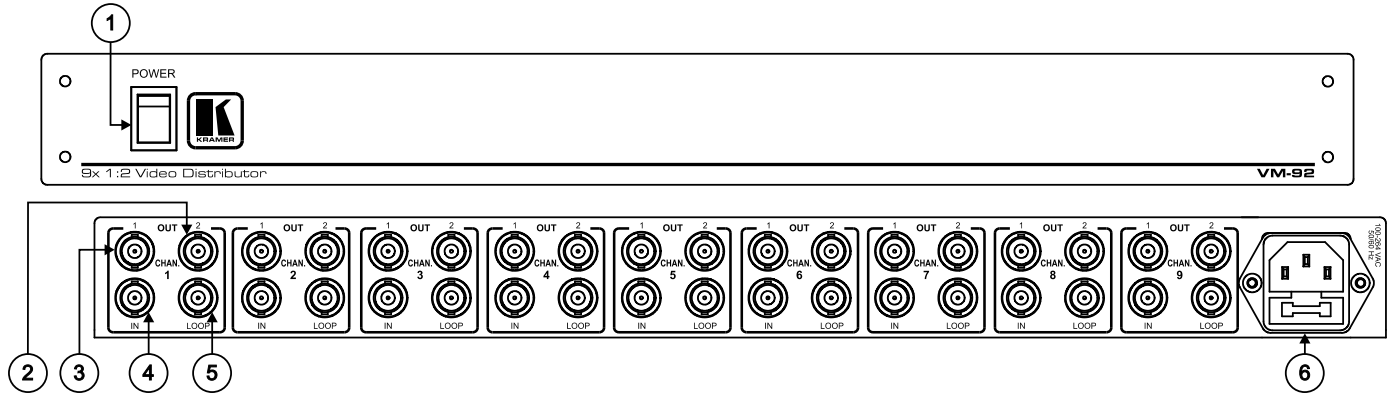

Figure 1: VM-92 9x 1:2 Video Distributor
- Front and rear panels (see Figure 1 and Table 1)